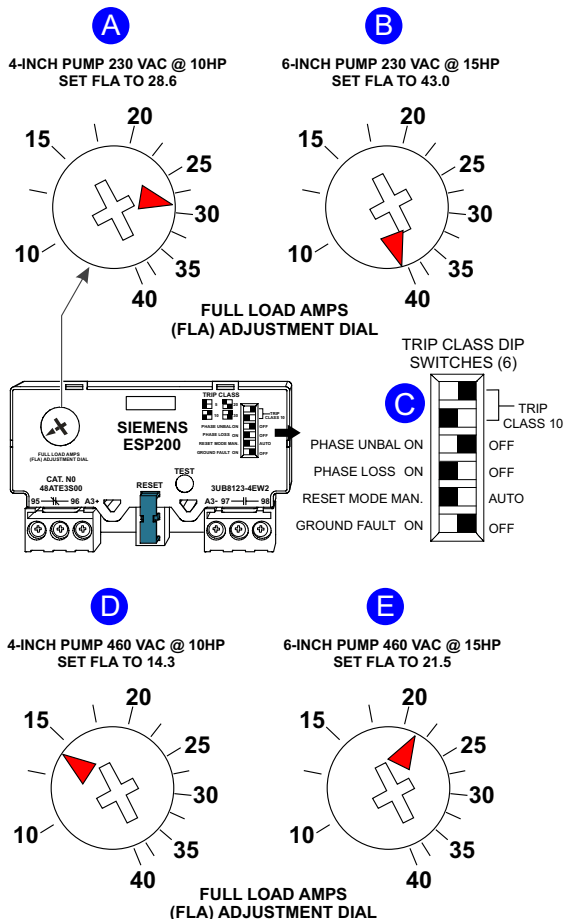

Figure 8. ESP200 Overload Relay Dial Setting (CB12/CB14 230/460VAC)
When the CB12/CB14 Control Boxes are employed, the Siemens EPS200 overload relay must be configured for correct operating protection. Reference Figure 8 for the correct setting for the **full load amps (FLA)** dial and the **trip class dip switches**.
2. When using a 4-inch pump @ 460 VAC, turn the full load amps (FLA) adjustment dial to the **14.3** amp position as show in Figure 8 D.
3. When using a 6-inch pump @ 460 VAC, turn the full load amps (FLA) adjustment dial to the **21.5** amp position as show in Figure 8 E.
4. Set the six trip class dip switches to the correct operating protection position as shown in Figure 8 C.